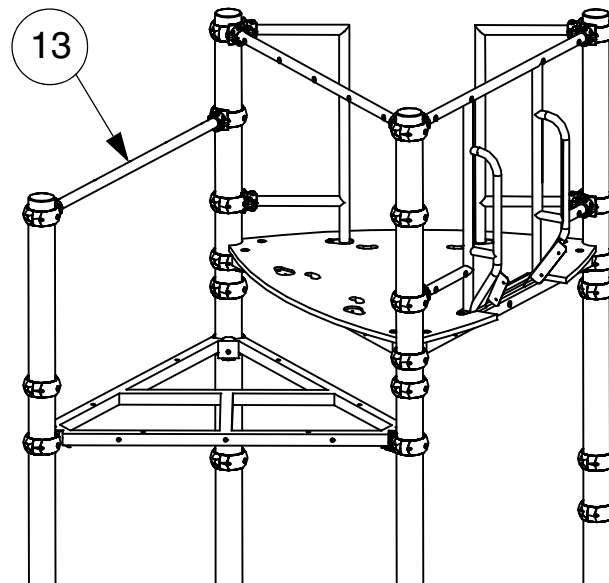

FIG.30
39) Attach in 1 place 1 off Panel Fixing Rail (item 13) to the Clamp Ring (half) that are 800mm above the 900mm Deck Fixings. Each end of the Panel Fixing Rail is held between a Bar Socket Top (item 49) and a Bar Socket Bottom (item 48) using 2 off BHCS Fixings (item 81) and should be fixed with the plastic panel fixing insets on the outside of the structure. See FIG.30 & FIG.C